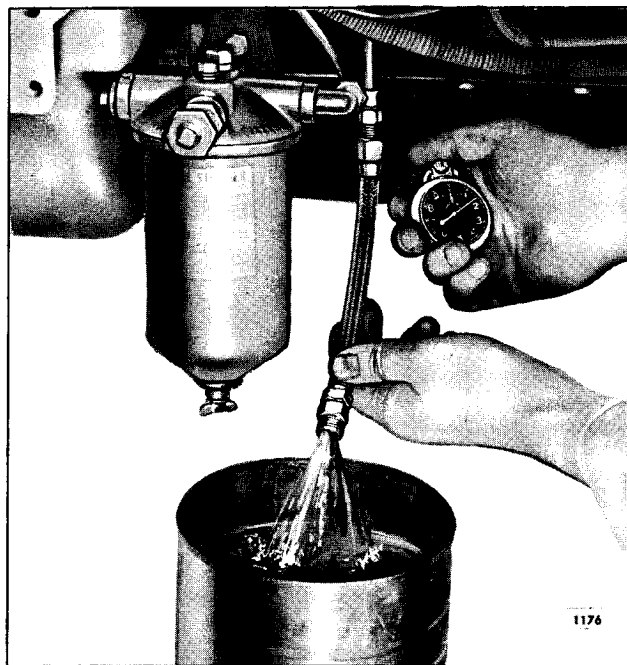

Fig. 5 - Measuring Fuel Flow from Fuel Return Manifold
- Disconnect the fuel return tube and hold the open end of the tube in a suitable receptacle, see Fig. 5.